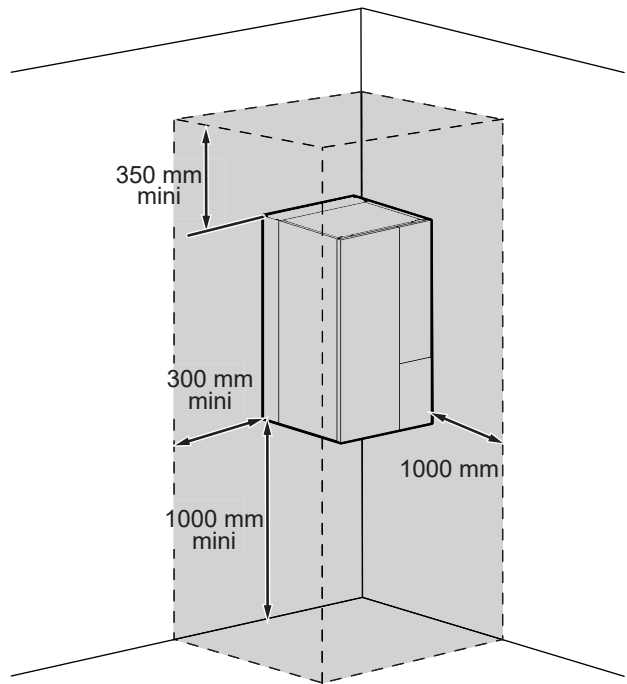

fig. 15 - Minimum installation clearances around the hydraulic unit for maintenance
- To facilitate maintenance and allow access to the various parts, we recommend that you provide sufficient space all the way around the hydraulic unit (fig. 15, page 20).